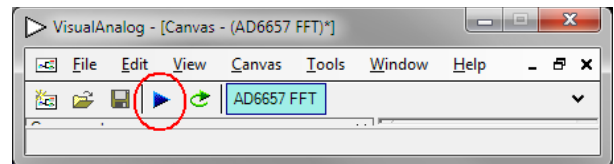

Figure 12. Run Button (Encircled in Red) in VisualAnalog – [Canvas – (AD6657 FFT)*] Toolbar, Collapsed Display
- Click the **Run** button in the **VisualAnalog – [Canvas – (AD6657 FFT)*]** toolbar (see Figure 12).